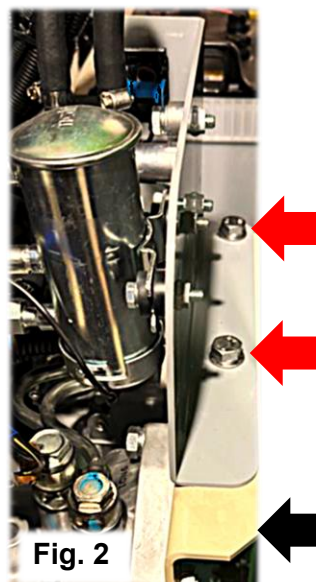

Fig. 2
- b. Place the pre-assembled Fuel Pump Purge Kit on top of the pre-fuel filter bracket, Ref. Fig. 2.
- c. Align the mounting holes of both brackets, reinstall and tighten the mounting bolts, Ref. Fig. 2.